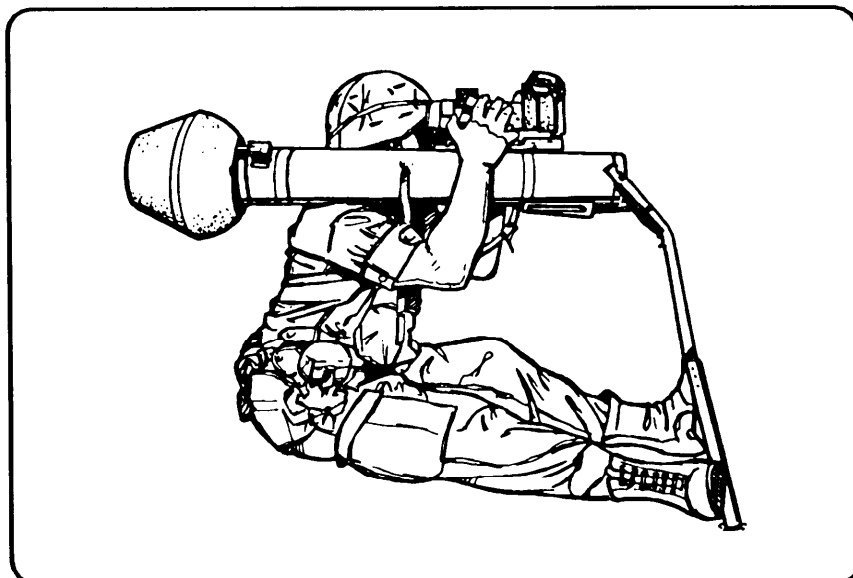
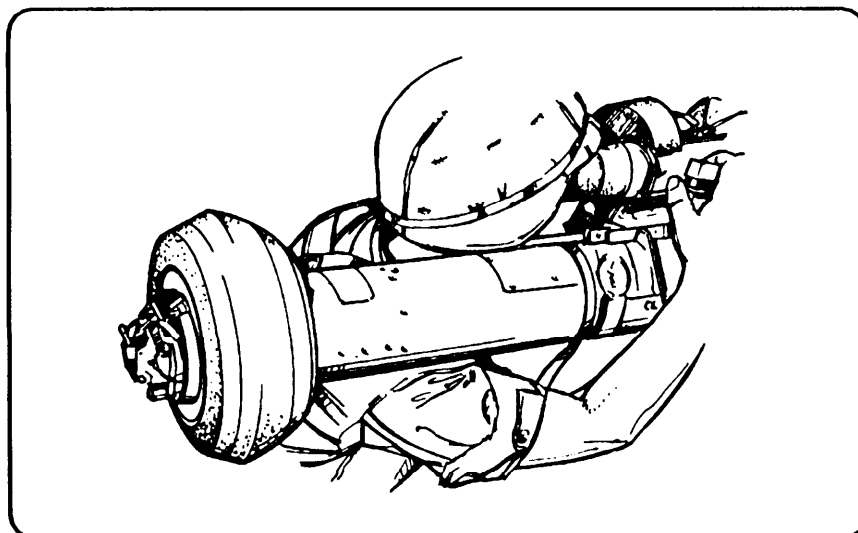

Figure 7-1. Sitting position.
Figure 7-2. Positioning of round on shoulder.
a. **Sitting Position.** Demonstrate the sitting position, then have the soldiers assume the position (Figure 7-1).
(1) The sitting position is the most stable. Sit with the legs extended as far as possible. Place the notch of the boot heels on the biped and push outward.
(2) Lean forward at the waist as far as possible. Pick up the round and place it on the muscle portion of the shoulder, keeping it tight against the curve of the neck (Figure 7-2).
(3) Grasp the tracker barrel with the left hand, curling the thumb under